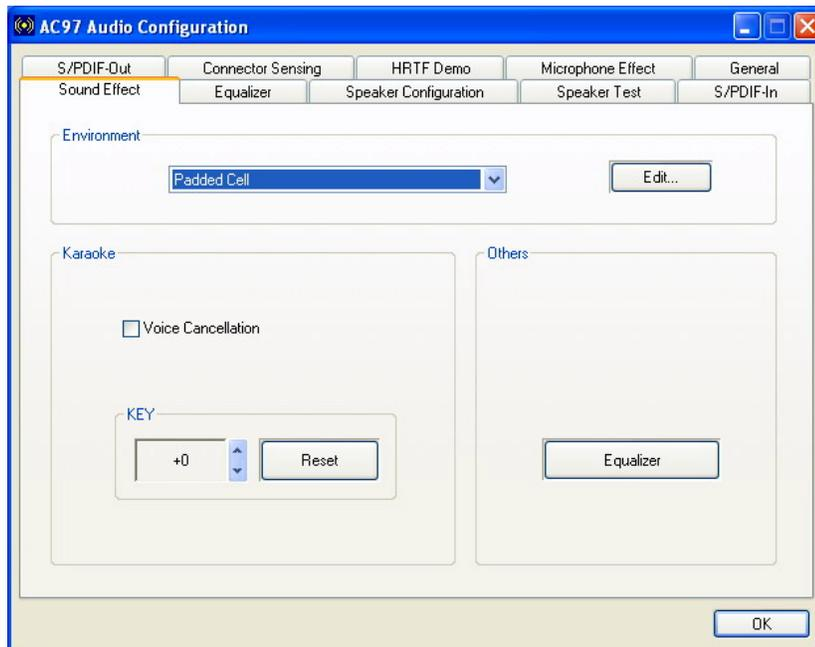

Figure D-4: Sound Effects Manager (ALC655)
Step 3: The sound effect manager appears. (See **FigureD-4**)